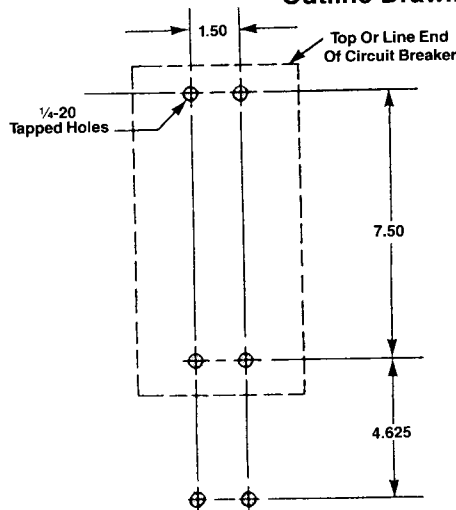

Fig. 1
- Drill and tap breaker mounting holes as shown in Fig. 1.